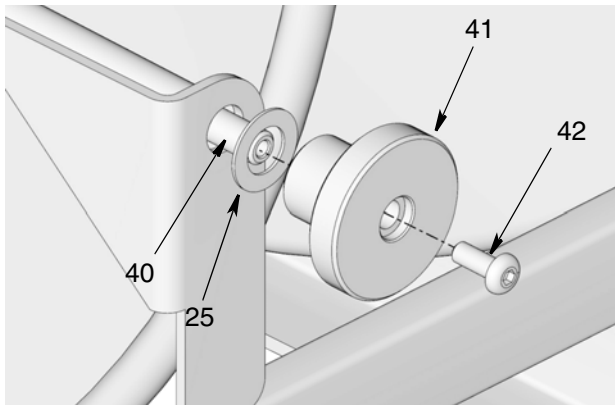

FIG. 19
- a. Turn brake knob (41) to the left to remove brake tension (FIG. 19).
- b. Loosen and remove screw (42) from end of knob (41).